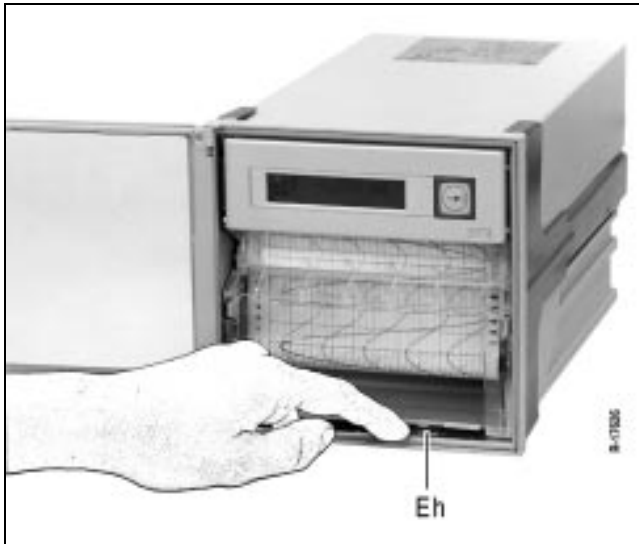

Fig. 5 Unlocking the chart unit (here: LC display version)
1. Unlock chart unit: press unlocking lever *Eh* (see fig. 5). Chart unit swings forwards. Remove chart unit.
1. Unlock chart unit: press unlocking lever *Eh* (see fig. 5). Chart unit swings forwards.